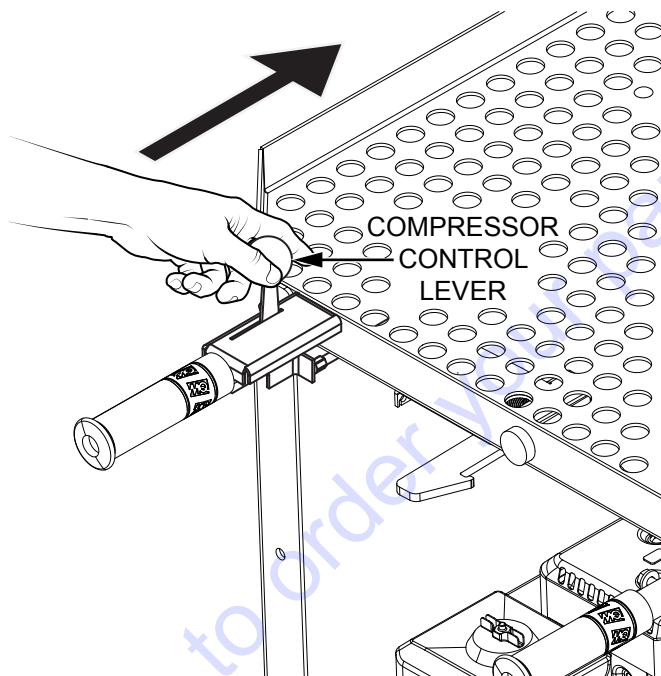

Figure 35. Engage Compressor
- Push the compressor control lever forward until it latches in the forward position (Figure 35), and let the compressor run for 1–2 minutes. This will bring the internal pressure up to approximately 20 psig, resulting in even lubrication of the compressor's internal components.